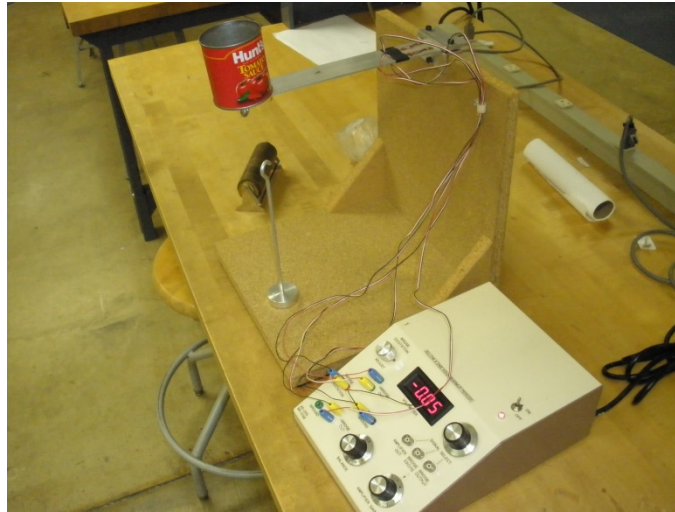

Figure 1 – The cantilever beam with strain gauges mounted in Wheatstone bridge circuit forms a “load cell” that can be used to detect when ping-pong balls
2. The cantilever apparatus is shown in Figure 1. It consists of a cantilever beam affixed with strain gages, an amplifier, and a integrated voltmeter that reads the output voltage from the bridge. The bridge has already been configured as a full bridge in deflection mode. To set the input voltage to the Wheatstone bridge, set the “Signal Select” button to “Bridge Excite”. The red LED display should indicate now the bridge excitation voltage. Set it to 5 V using the turning knob in the upper left corner. To read the bridge output voltage, set the “Signal Select” button to “Amplifier Out”. The LED display now shows the output bridge voltage, which has been amplified by an operational amplifier that is inside the voltmeter box.